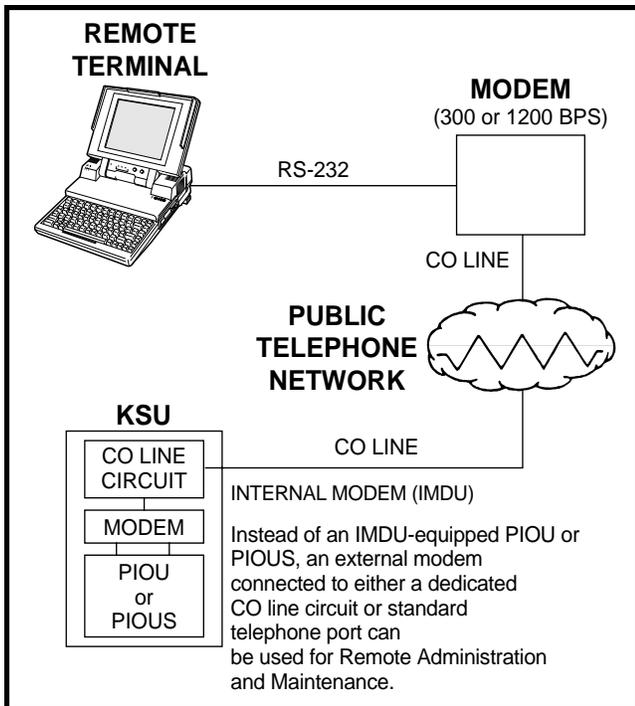

FIGURE 1
2.01 Remote Administration and Maintenance is accomplished with a remote terminal/modem communicating over the public telephone network via either an external modem (connected to a dedicated CO line or a standard telephone port) or a modem unit (IMDU) installed on a PIOU or PIOUS PCB. See Figure 1.
6.01 Terminal: The terminal must interface with an asynchronous modem, communicate in ASCII code at 300 or 1200 bps, have a standard typewriter-type keyboard, and display data via a CRT display or printer. A personal computer capable of emulating the described terminal may also be used (see Figure 1 and Paragraph 15).
6.11 Refer to Figure 1 and verify that the remote terminal is connected and set-up as follows: